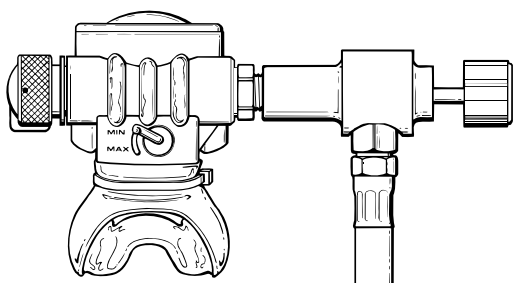

Fig. 24 - Inline Adjustment Tool Connection
4. Pull back the knob of the tool to retract the adjusting stem, and mate the female threaded end of the tool onto the second stage inlet fitting. While holding the tool secure, turn the second-stage clockwise until lightly snug (see Fig. 24).